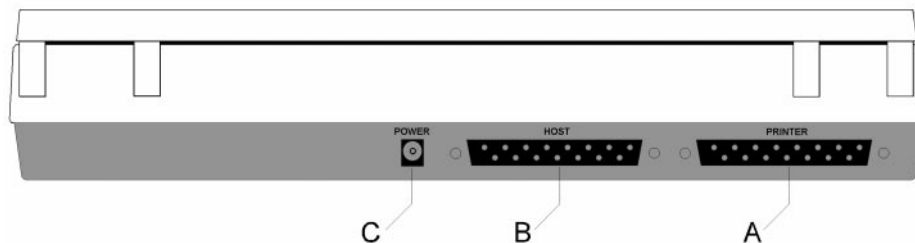

Figure 3: Rear view of the scanner
4. Connect the printer cable (if in use) to the 'Printer' connection at the rear of the scanner (connector A, Figure 3).
6. Connect the other end of the cable to the 'Host' connection on the scanner (connector B, Figure 3).
7. Connect the power supply adapter lead to the scanner (connector C, Figure 3).